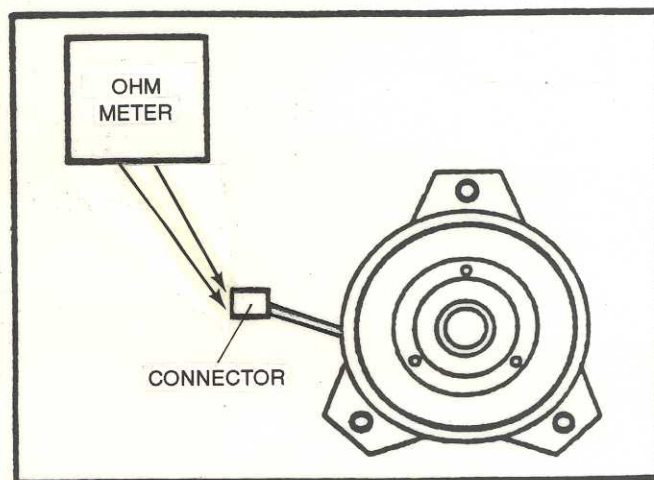

FIG. 1 - CLUTCH FIELD COIL RESISTANCE
- 3: Connect OHM meter leads to the two wires in the clutch connector (Figure 1).